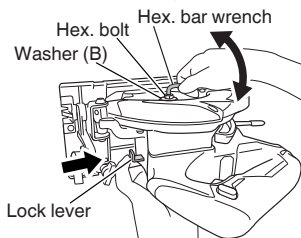

Fig. 27
- Set the cutting volume at maximum, and place the Circular Saw as shown in Fig. 27.